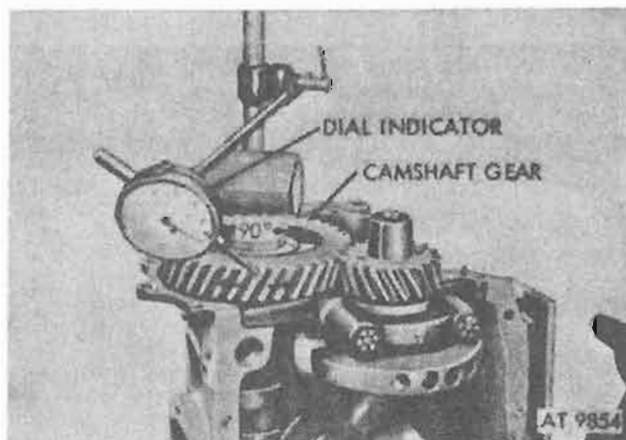

Figure 4-101. Measuring timing gear backlash.
b. *Timing Gear Backlash* (fig. 4-101). Place dial indicator on cylinder block with indicator tip against one of the camshaft gear teeth at right angle to helical gear tooth. Move gear from left to right to the limits of its play and record. Be sure to hold gear firmly toward block so that end play will not be indicated as backlash. Refer to repair standards (table 4-8).